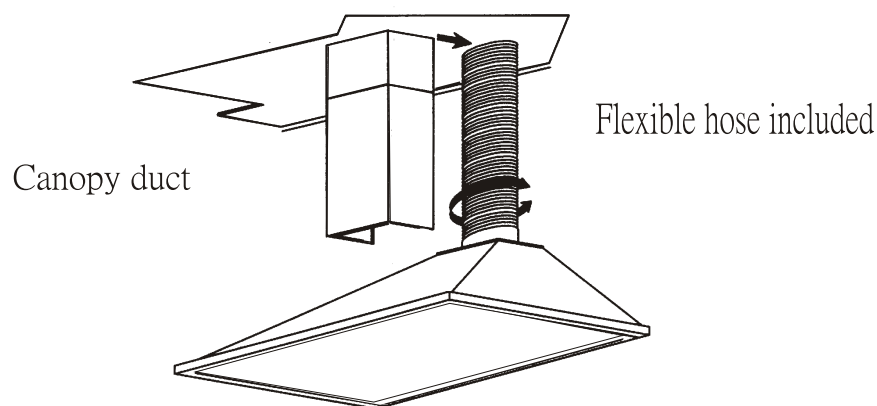

Fig. 5
- C. Ensure the mounted range hood is level when installed for optimum performance. (Fig. 5)